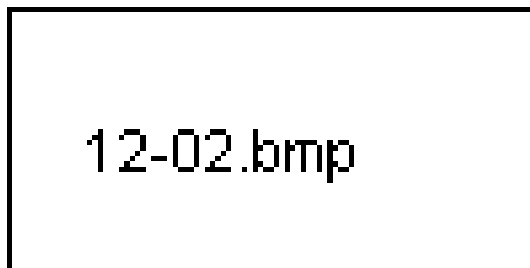

Figure 12-2 Installing the PCMCIA card
3. Insert the PCMCIA card as shown in Figure 12-2. When the card is almost fully seated, you will feel some resistance. Press gently to assure a firm connection, but do not force the card into position.